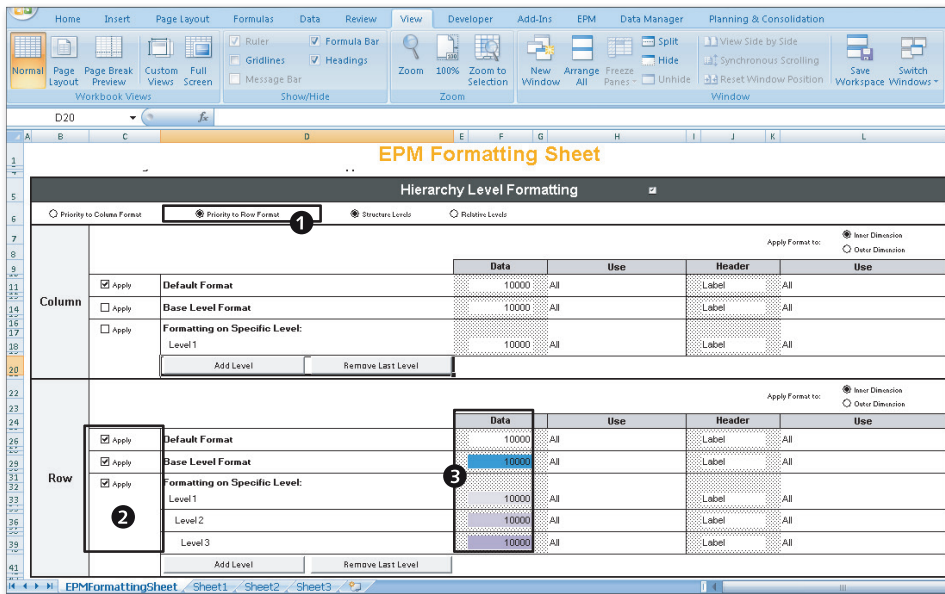

Figure 5.21 Formatting a Report—Part A
Now let's go over the steps to format data based on hierarchy levels. Refer to Figure 5.21 and Figure 5.22. You will notice the following formatting:
- ▶ The **PRIORITY TO ROW FORMAT** radio button is selected when row formatting is required to take precedence over column formatting (Figure 5.21, ❶).
- ▶ You'll notice that the row formatting is enabled at various levels, and color coding is specified for the data columns (Figure 5.21, ❷ and ❸). When a report is executed, the formatting defined is applied to the report (Figure 5.22).